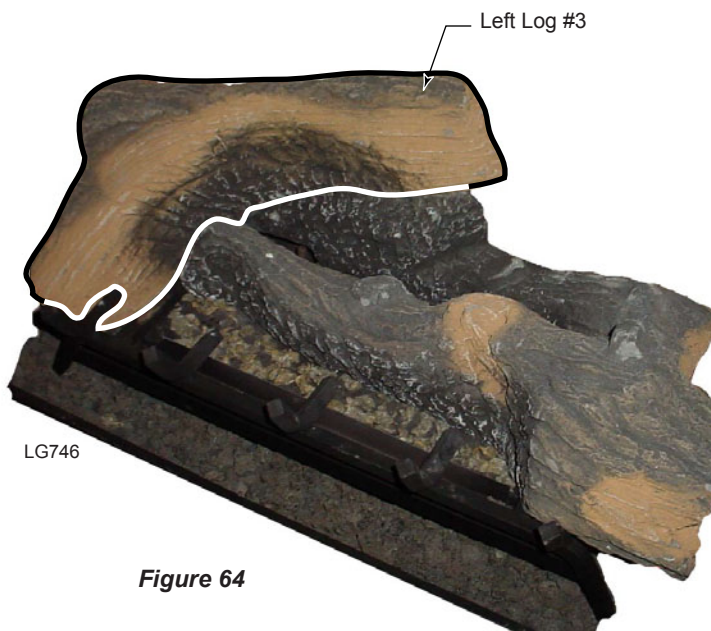

Figure 64
- 7a. For 400 models, place Left Log #3 by matching the notch on the side of the log with the protrusion on the rear log. Set the left side of the log over the cross bar of grate by placing the notch of the log on the grate bar. Be sure the log is tilted backward. When this log is in place, it is seated sideways. *Figure 64*
- 7b. For 300 models, place Left Log #3 by matching the notch on the side of the log with the protrusion on the rear log. Set the left side of the log over the grate bar in the front by placing the notch of the log on the grate bar. Make sure the log is tilted backward. When this log is in place, it is seated sideways. *Figure 64*